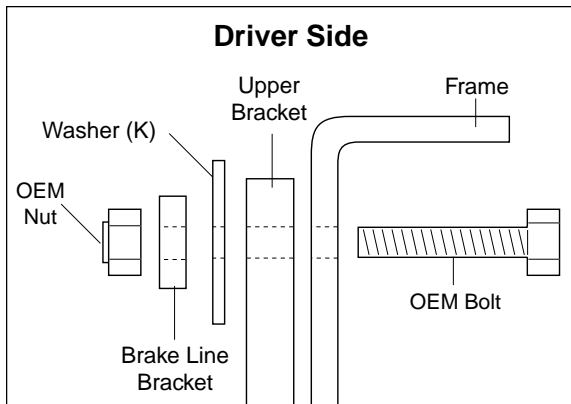

Figure 6
2. Insert the existing emergency brake cable bolt through the frame and slot in the upper bracket. Install a large washer (K) over the bolt and push it against the upper bracket. Install the emergency brake line bracket back in place and finish by installing the OEM nut to the outside (Figure 6). Leave loose at this time.